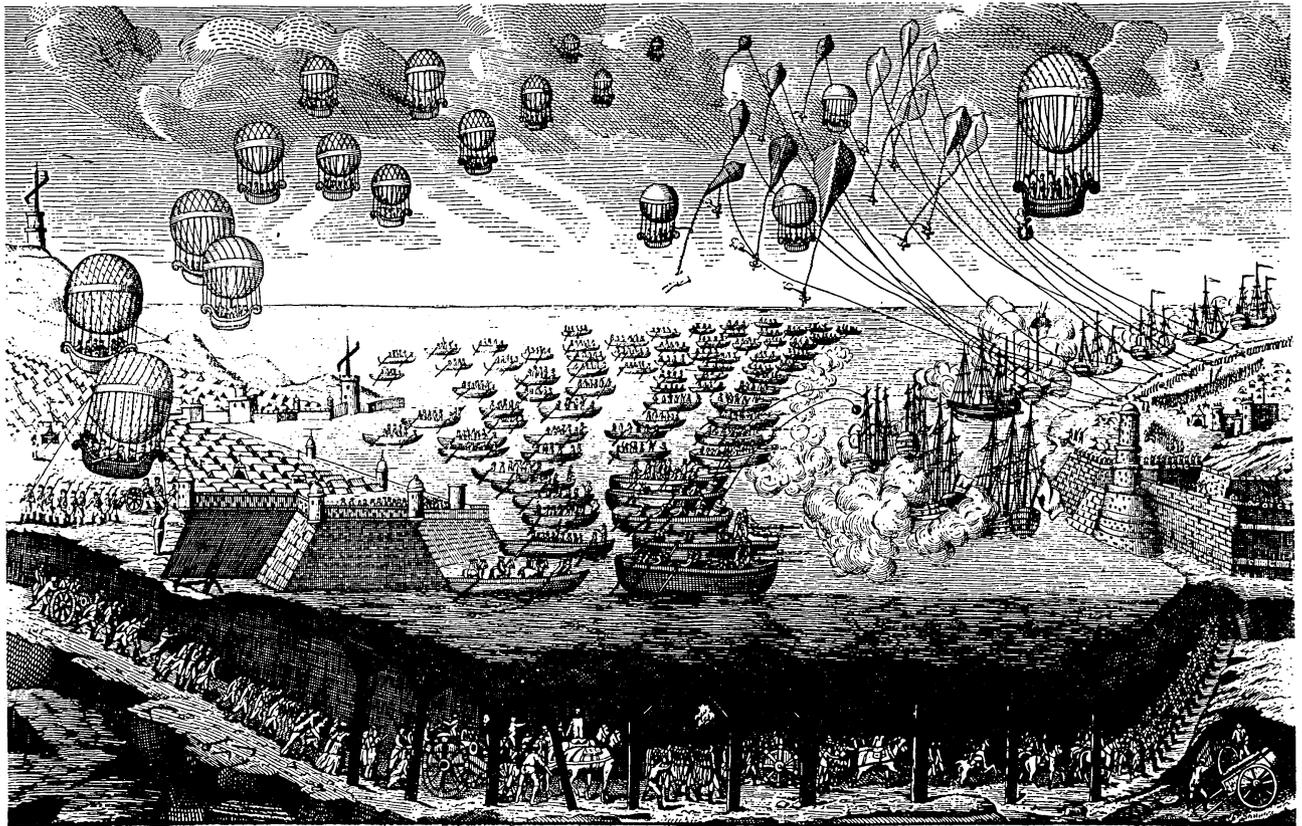
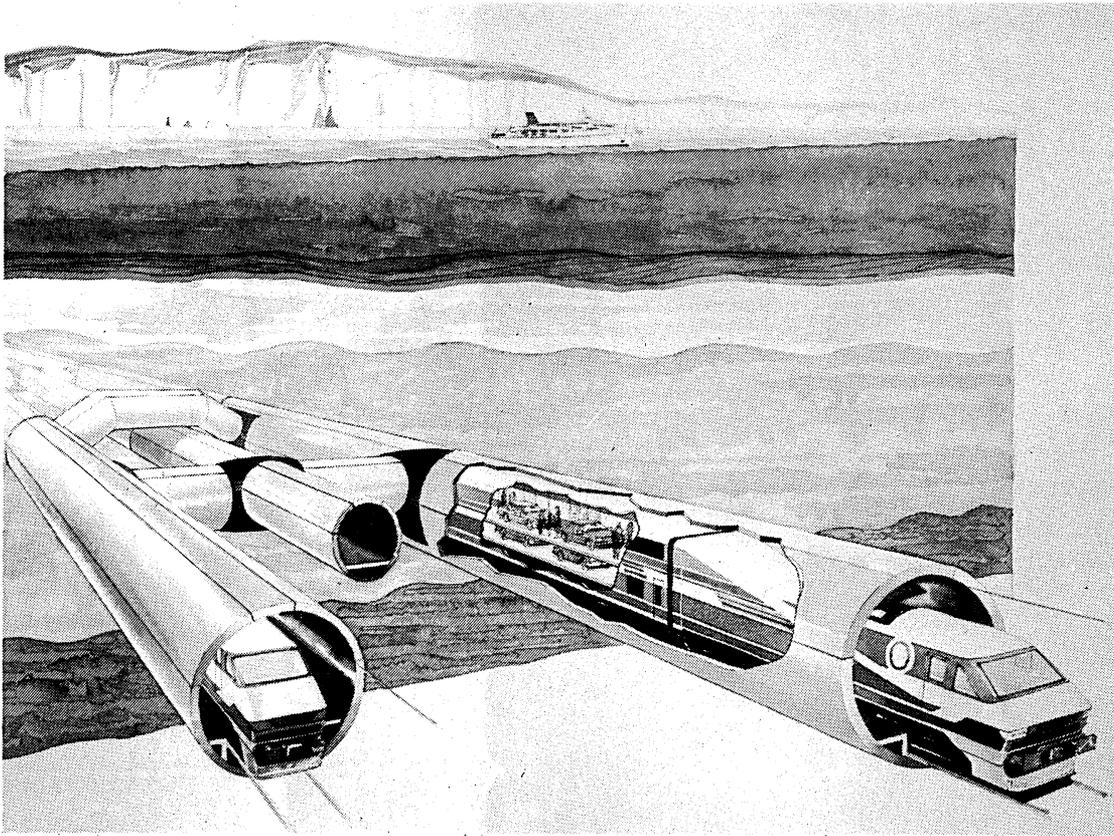

Figure 1 This picture, drawn in 1803, shows an imaginary invasion of England by Napoleon's soldiers by sea, air and Channel tunnel.
Figure 3 The twin railway tunnel. Length 50km, with 37km under the sea.
*Acknowledgements* Figure 1 BBC Hulton Picture Library; Figures 3 and 4 supplied by The Channel Tunnel Group; Figure 6 supplied by Sealink British Ferries.
Many different schemes have been suggested. The one accepted by the British and French governments was for a twin railway tunnel (Figure 3 on the next page).